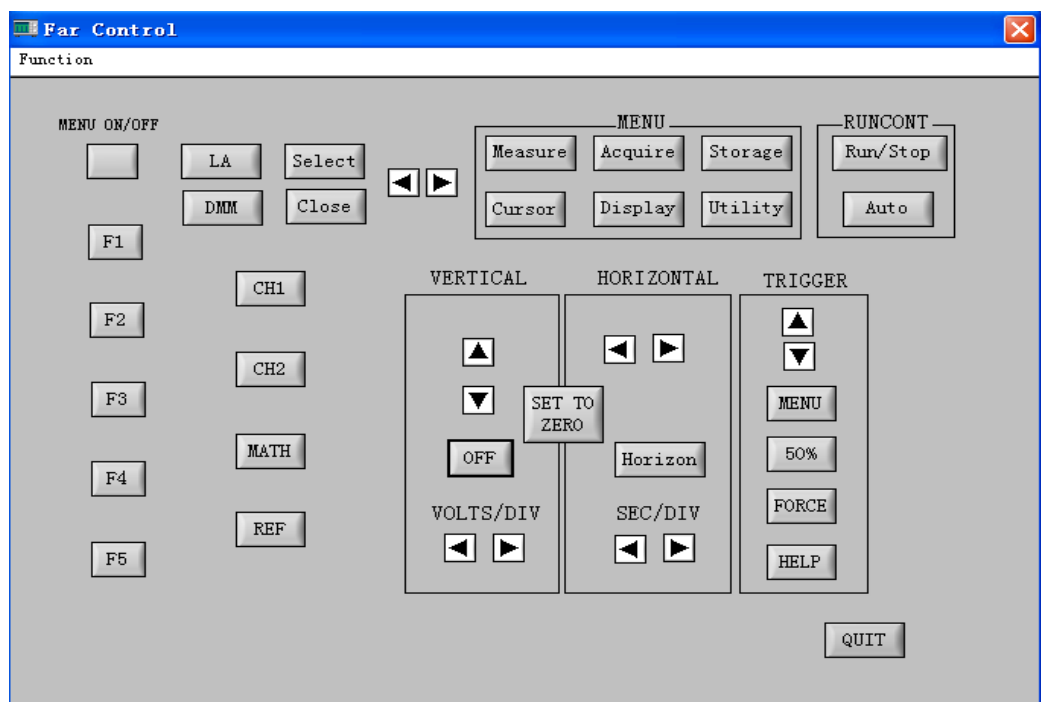

Fig 3-4
- Enter the “Far control” and click the [Far control] button. The indicator light comes ON. Transmission interface mode is now enabled, as shows in Fig 3-4.
6. On the virtual control panel in Fig 3-4, you can operate your oscilloscope with different buttons as instructed by the oscilloscope user manual.